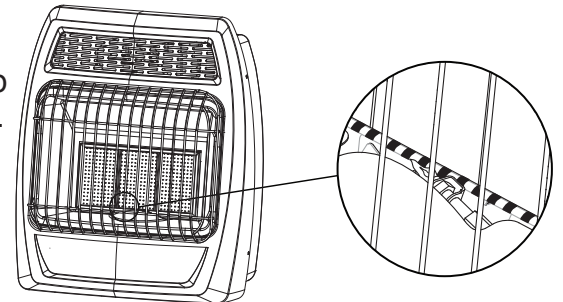

Fig. 24 - Pilot Flame Location
6. With control knob depressed, push down on the ignitor button until the pilot lights. The pilot is visible, centered below the main burner, behind the glass panel. (See Fig. 24 on page 19)
7. Keep control depressed for (30) seconds after pilot lights. Release control knob.